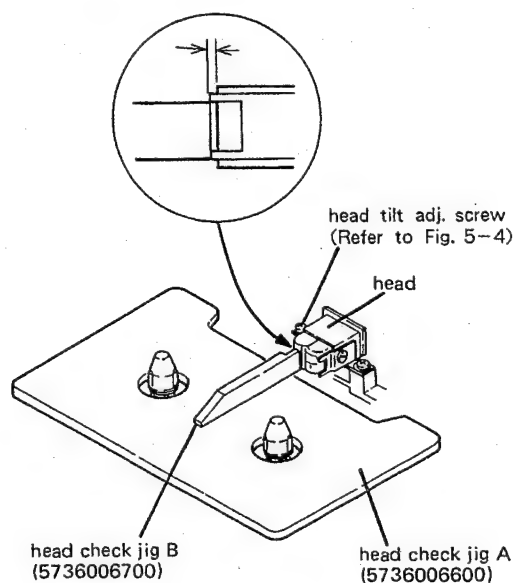

Fig. 5-3
3. Apply jig B to head and check for tilt. (Fig. 5-3)
3. 治具 B をヘッドに当てチルトを確認する。(図5-3)
1. With the deck in STOP mode, adjust the trim pot R547 (Fig. 5-3) so that the head base comes to the lowest position.